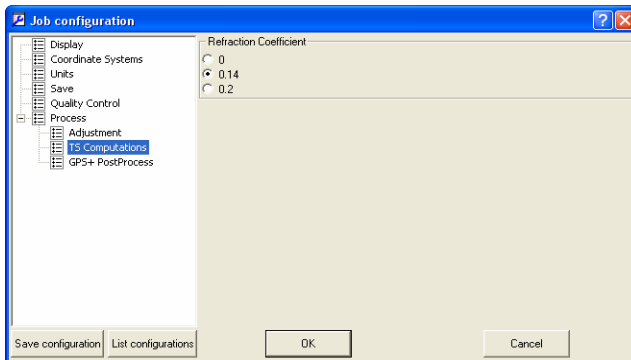

Figure 2-37. Job Configuration – TS-Computation
- The *TS-Computations* tab sets the refraction coefficient to be applied to total station observations when adjusting (Figure 2-37). The default refraction coefficient is 0.14.